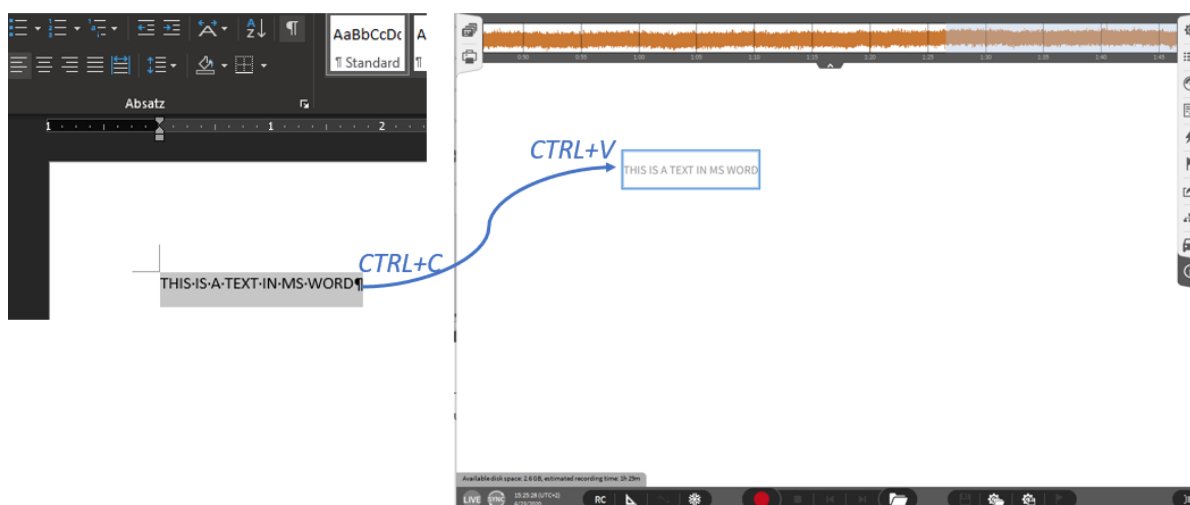

Fig. 8.36: Pasting a text to the measurement screen
**Note:** A text can also be copied and pasted directly to the OXYGEN measurement screen (see Fig. 8.36).
In the PLAY mode, the scope instrument can also be added or edited and has an additional trigger search functionality, meaning with the arrow keys and two arrow buttons in the instrument (see fig 8.36) jump the view to the next trigger point.